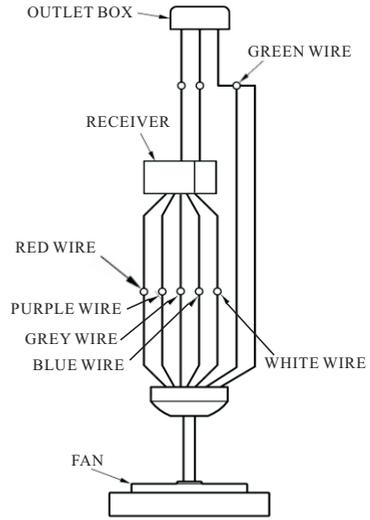

FIG. 8
2. Connect the red wire from receiver to the red wire from fan with wire nut. Connect the purple wire from receiver to the purple wire from fan with wire nut. Connect the grey wire from receiver to the grey wire from fan with wire nut. Connect the blue wire from receiver to the blue wire from fan with wire nut. Connect the white wire from receiver to the white wire from fan with wire nut. Connect the green wire from ceiling, and green wire from downrod ball with wire nut. (see fig 8)